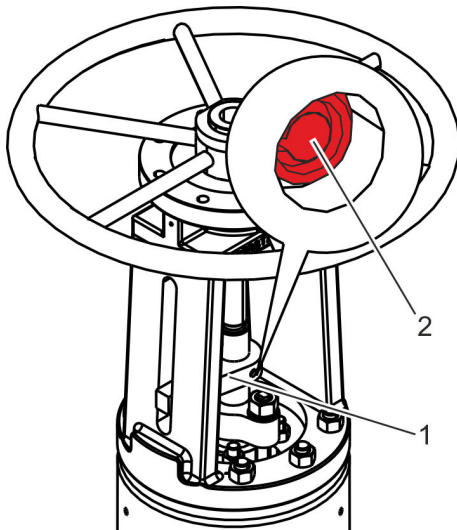

Fig. 23: Detaching the anti-twist device
1. → If an anti-twist device (Fig. 23/1) is available: Knock the clamping pin (Fig. 23/2) out of the anti-twist device.